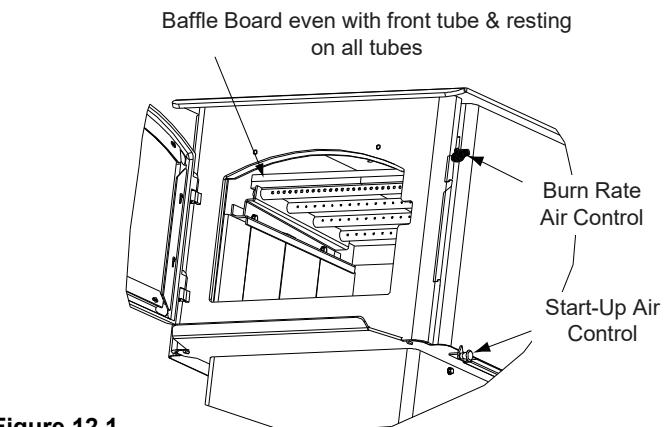

Figure 12.1
1. Confirm the baffle is correctly positioned. It should be even with the front tube and resting on all tubes (**Figure 12.1 and Figure 12.2**).